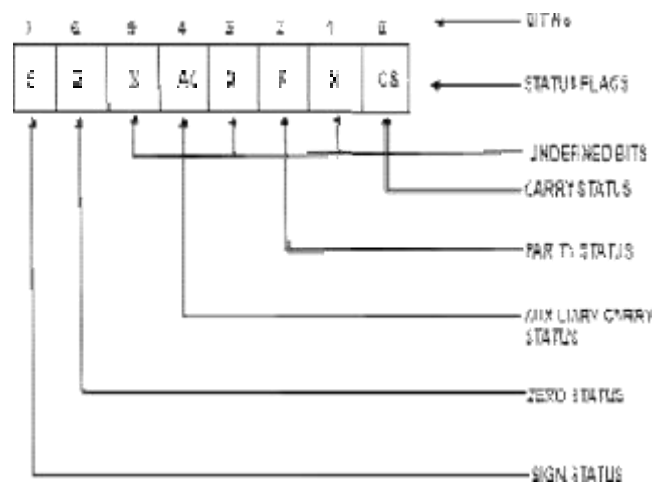

Figure 1.2.2 Flag Register
- i. Carry flag (CS)
- ii. Parity Flag (P)
- iii. Auxiliary Carry Flag (AC)
- iv. Zero Flag (Z)
- v. Sign Flag (S)
- In fig 1.2.2, five bits indicates the five status flags and three bits are undefined.